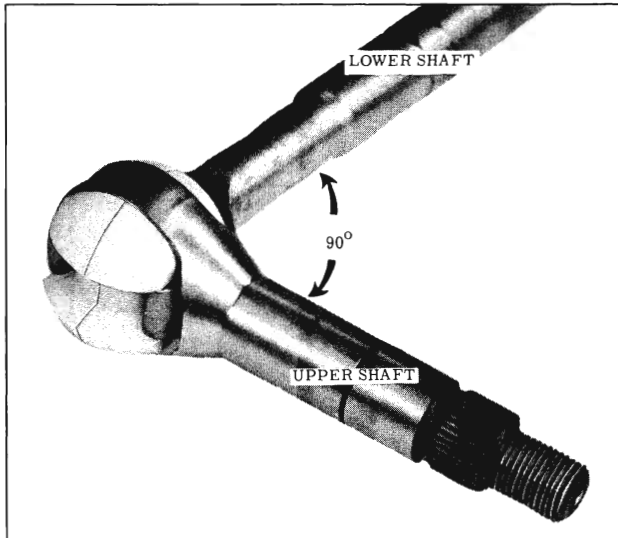

Fig. 4-100 Installing Sphere and Upper Shaft
2. Turn the sphere so the lower shaft can be installed over the flat area of the sphere (Fig. 4-100) approximately 90° from center line of lower shaft, then, install lower shaft socket over the sphere and straighten the shaft.